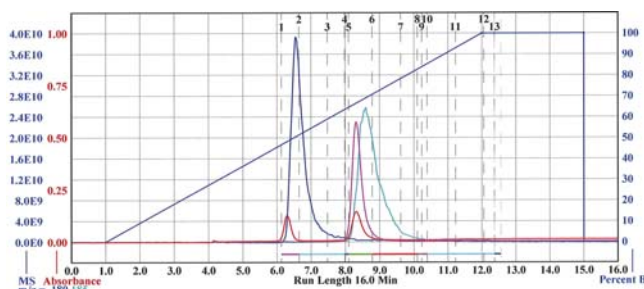

Figure 2: Expected results using MSD Test Mix
10. Compare the chromatogram generated with Figure 2. Table 3 includes compounds and expected retention times for the MSD test mix.